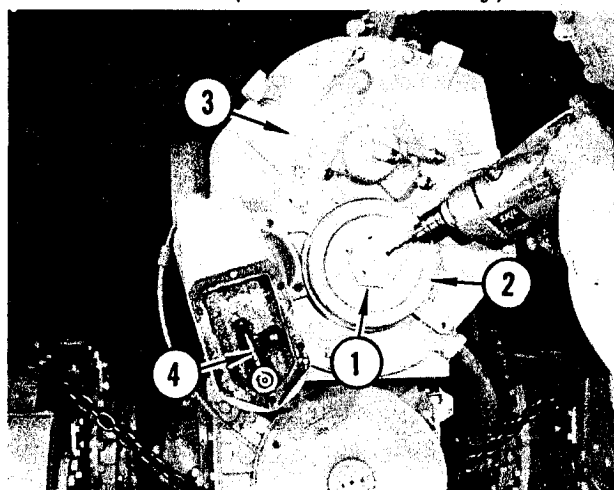

FIGURE 41. TRANSMISSION LOWER SHAFT
Refer to Figure 41. Drill stake from locknut (1) on lower shaft. Remove locknut and gear brake drum (2) and brake shoes. Remove copper tube oil line (3). Remove nut and lockwasher from rocker shaft and re-